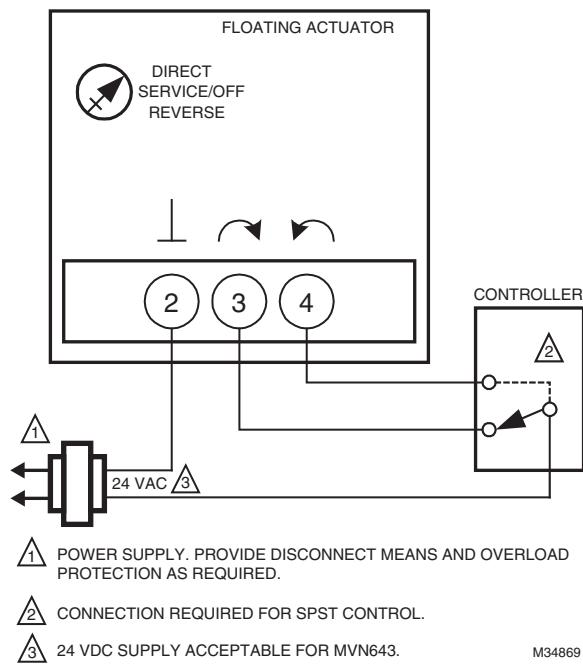

Fig. 6. MN6105 with On/Off Control.
2. Wire actuator using Figures 6 through 22 for the application required.